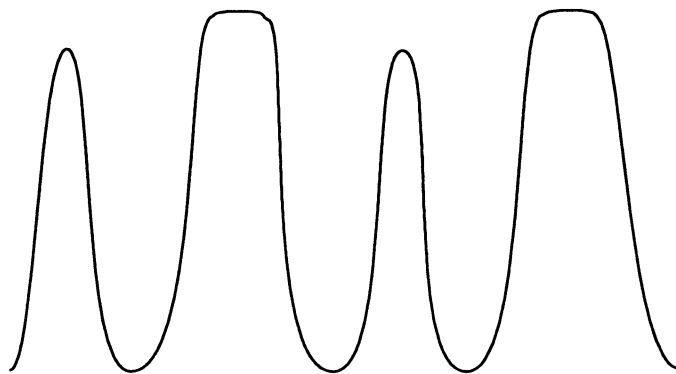

Figure 21. Two-Level Periodic Pattern - Points A and B (2 Cycles)
Step 2. Place the front panel switch in the OPT MODE position. The PS-FRED module transmits the pattern shown in Figure 21 and can be ob-